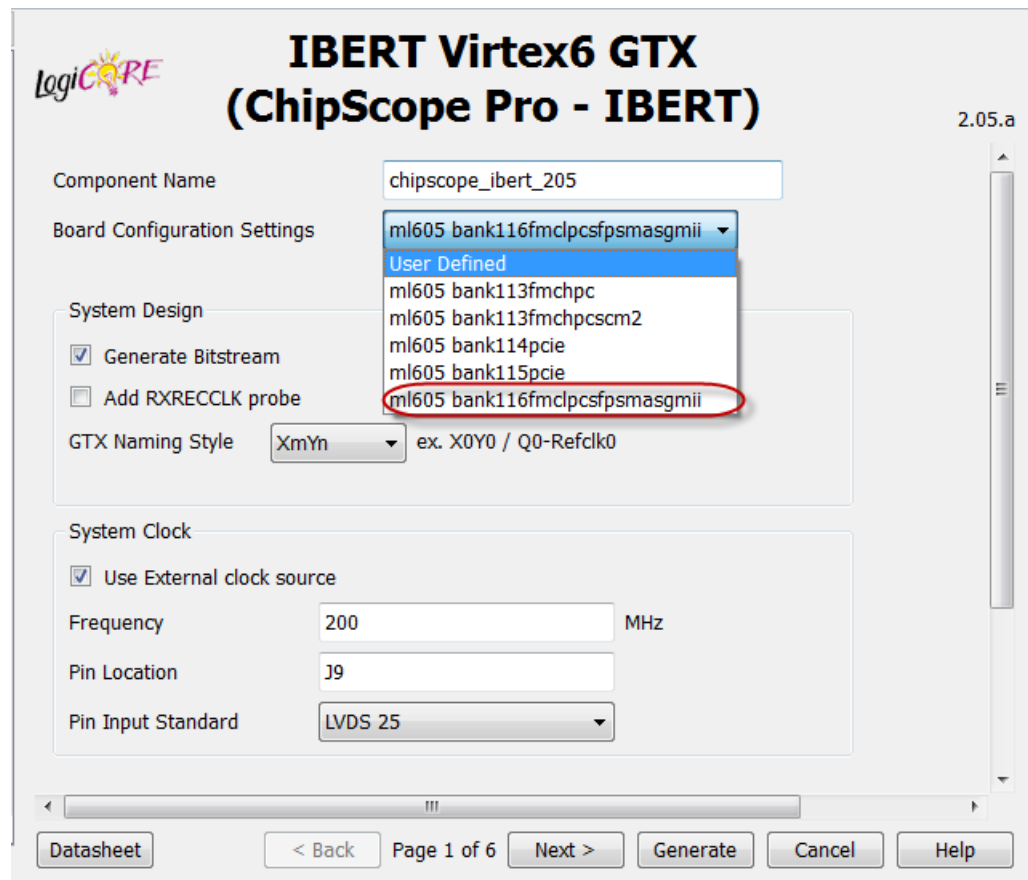

Figure 4: Board Configuration Settings Dialog Box
5. In the board configuration settings dialog box for the core, shown in Figure 4, locate the **Board Configuration Settings** drop-down menu and select **ml605 bank116fmclpcsfpsmasgmii**.
Note: If you don't see the drop-down items shown in Figure 4, you might have selected the wrong device in numbered step 2, above.